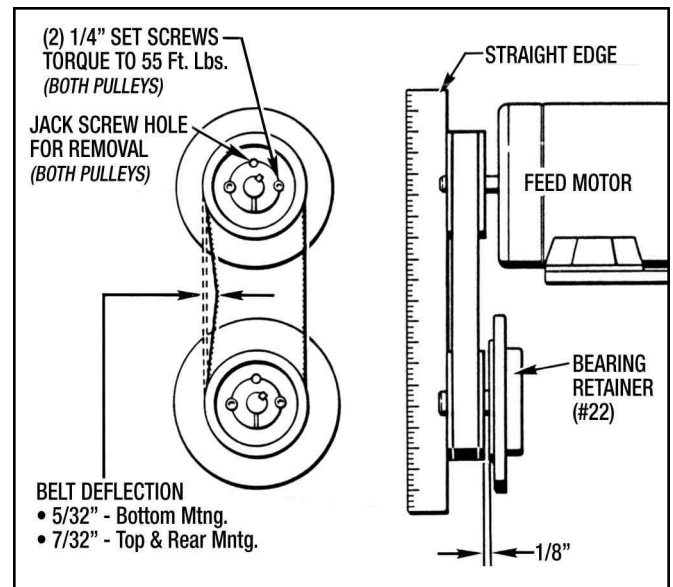

Figure 9.19 - Timing Belt & Pulley Installation
- b. Insert bushing into pulley, matching set screw holes as shown in Figure 9.19.
- d. Oil set screws and thread into holes A and C as shown in Figure 9.19.
- e. Alternately torque the (2) set screws to 55 Lb. Ft.
6. As per General Instructions in Step 5, install Pulley (#100) and Bushing (#102) on Worm Shaft(#37) 1/8" from Bearing Retainer (#22) as shown in Figure 9.19.
7. As per General Instructions in Step 5 install Pulley (#101) and Bushing (#103) onto the Feed Motor Shaft. Use a straight edge for alignment as shown in Figure 9-19.
8. Slip Timing Belt (#106) onto the pulleys and adjust the motor position for proper Belt Tension Deflection as shown in Figure 9-19. Tighten down Screws (#152).